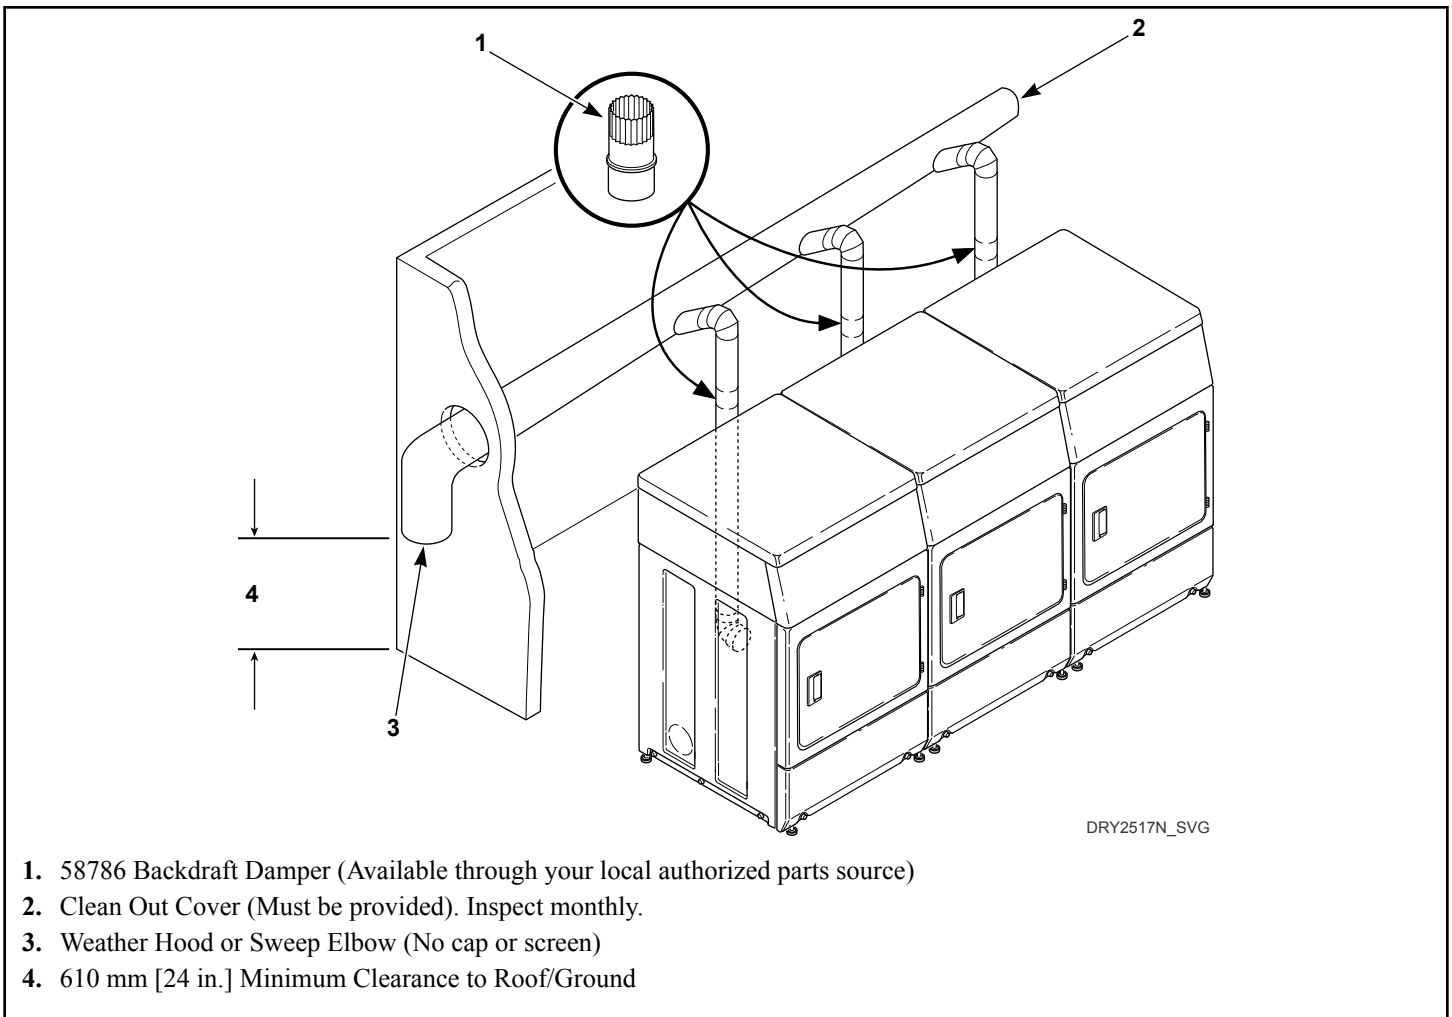

Figure 5
*Figure 5* shows a typical example of a multiple dryer installation. Note how each dryer has its own exhaust system vented to the central exhaust duct.